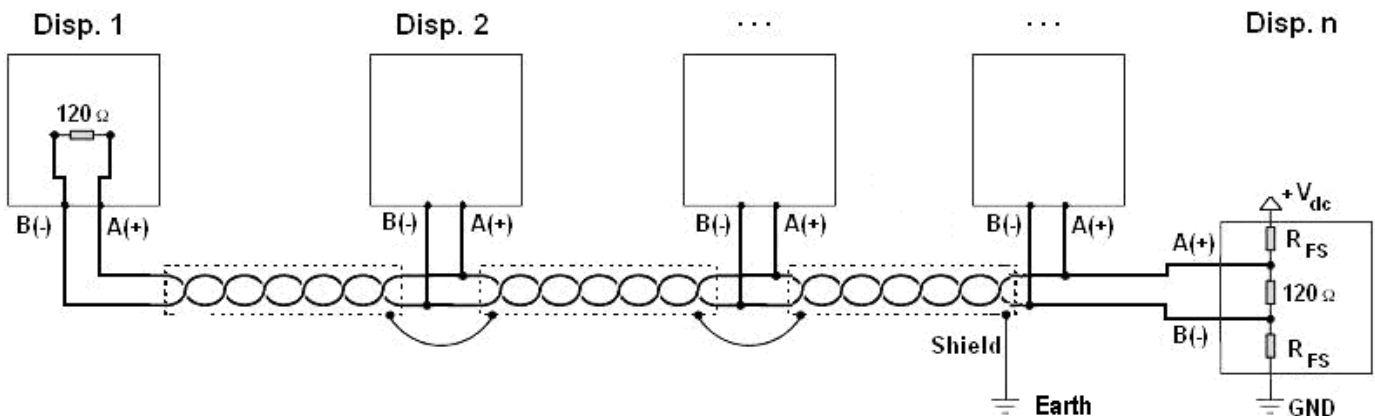

Figure 1: electrical diagram of RS485 connections.
- The shielding can be connected into a single point of the entire network (as shown in Figure 1) or both its ends, however it's important that **all the masses have the same potential**, in order to avoid the forming of current rings.
- On the RS485 network normally one connects 2 **termination resistances** equal to the characteristic impedance of the cable (typically 120 Ω, see Figure 1), **ONLY** on the 2 devices **which are at the 2 ends of the cable**. The terminal resistance is not supplied with the ports of the indicator.
To create a resistive divider which maintains this difference of potential also when all the transmitters are disabled, inert in the RS485 port of the indicator where there are the termination resistances, the **polarisation** or **fail-safe resistances** (R_{FS} in Figure 1). The value of these resistances is between 390 Ω and 2,2 kΩ.